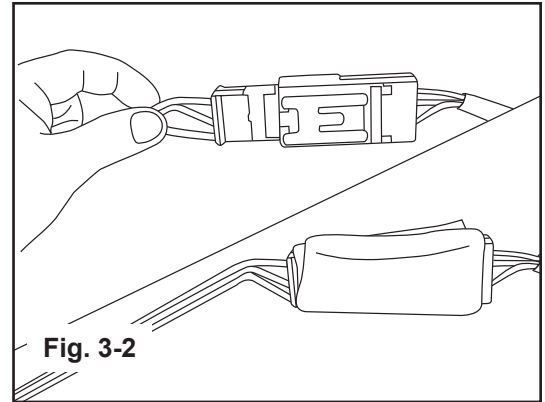

Fig. 3-2
- a) Plug mirror connector into the EC mirror harness connector. (Fig. 3-2)
- b) Wrap two (2) pieces of foam tape around EC mirror connector and EC harness connector. (Fig. 3-2)